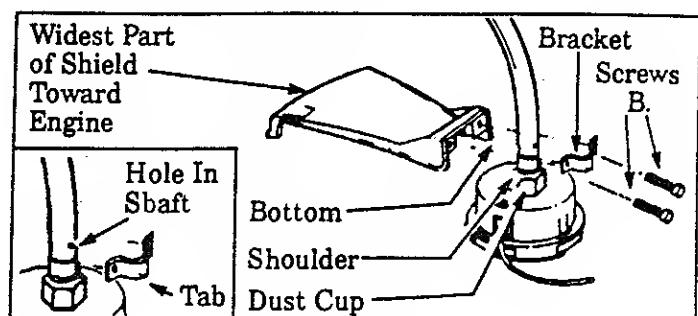

Figure 5
Do not alter or remove the Bracket Tab. When installed correctly, the Bracket Tab ensures proper shield orientation. Failure to install the shield in the position shown in Figure 5 can result in serious injury to the operator. The length of the shield must be aligned with the length of the drive shaft housing. Direct the widest part of shield toward engine. Figure 5.
- a. Match the Tab on the Bracket with the hole on the Drive Shaft Housing. Figure 5.
- b. Attach the Shield to the Bracket with the two Screws "B." as shown in Figure 5.